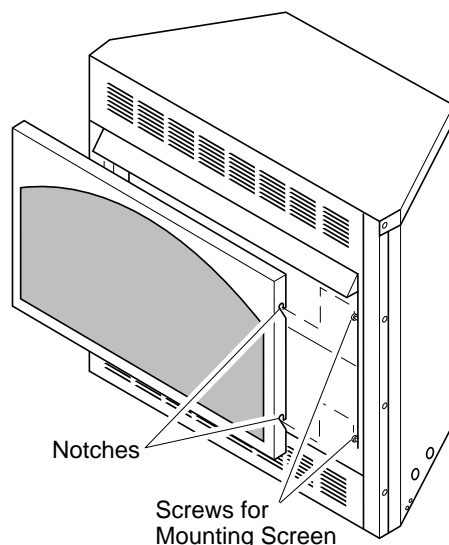

Figure 24 - Installing Fireplace Screen
2. Install fireplace screen by slipping notches of fireplace screen over screws on front of fireplace (see Figure 24).